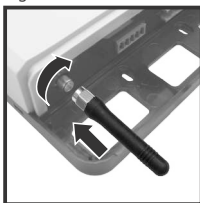

Figure 4
- Connect the battery (Figure 4) and check that the coverage LED lights up green after a few seconds.